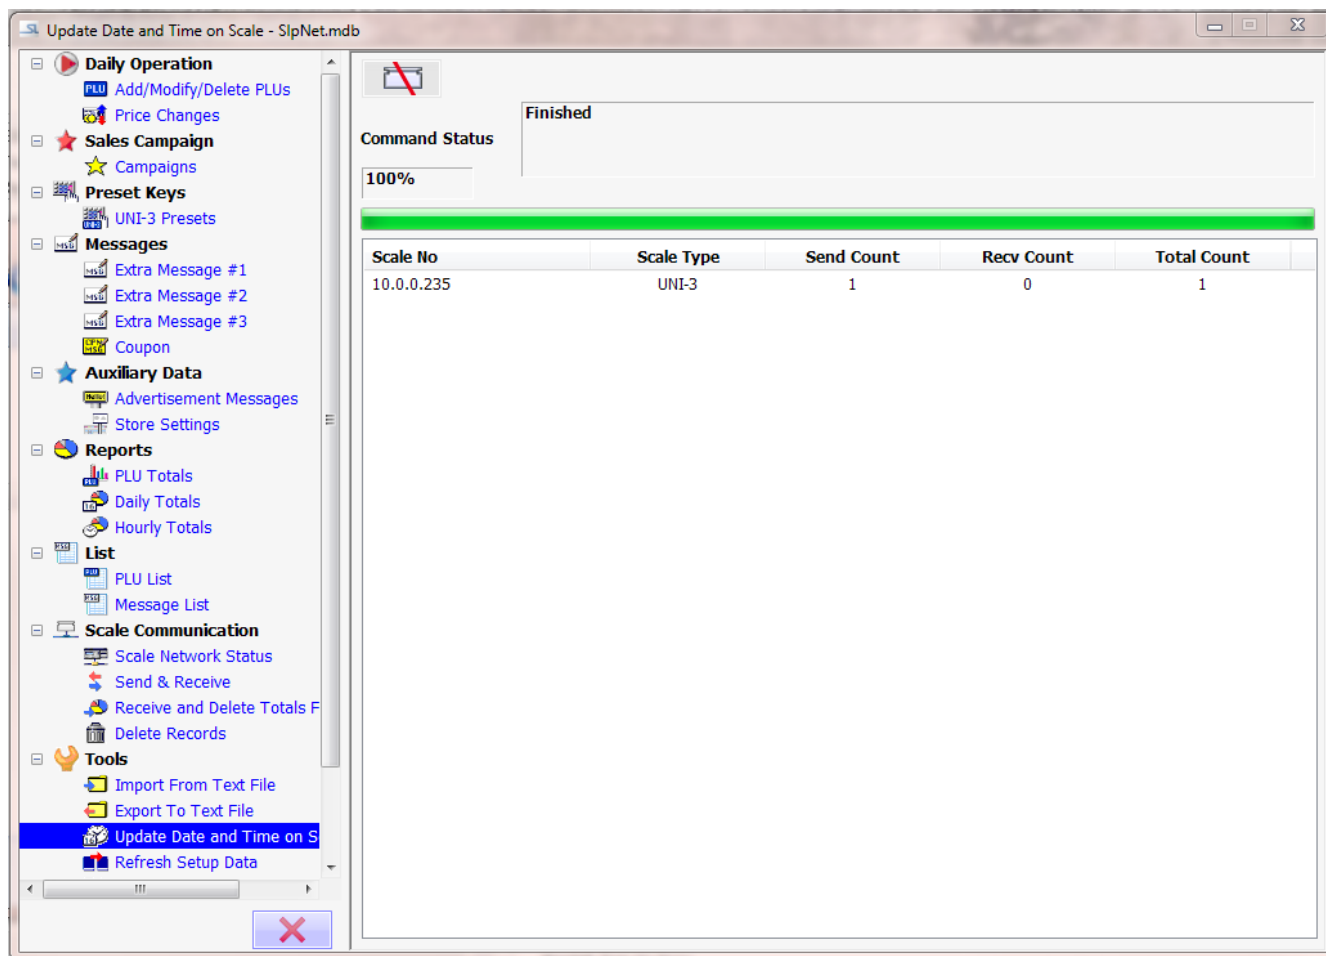

Figure 6-1
2. A Command Status progress dialog box opens to show whether or not the send operation was successful. See Figure 6-1